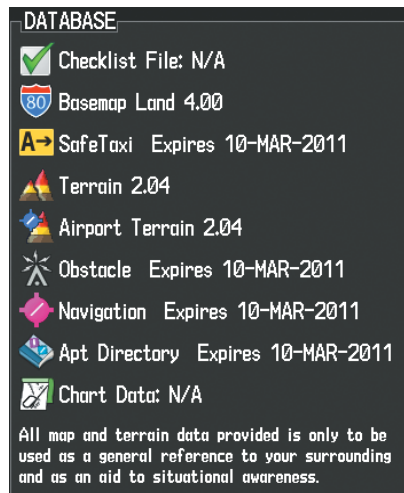

Figure B-9 Database Information on the Power-up Screen
- 4) Apply power to the system, check that the databases are initialized and displayed on the power-up screen (Figure B-9). When updating the terrain and FliteCharts databases, a 'Verifying' message may be seen. If this message is present, wait for the system to finish loading before proceeding to step 5.